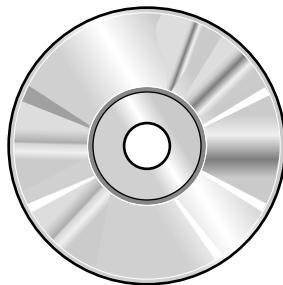

Fig. 5
- 4 Fig. 5 shows a DVD. The DVD is an educational film about outer space. The DVD is aimed at young children.